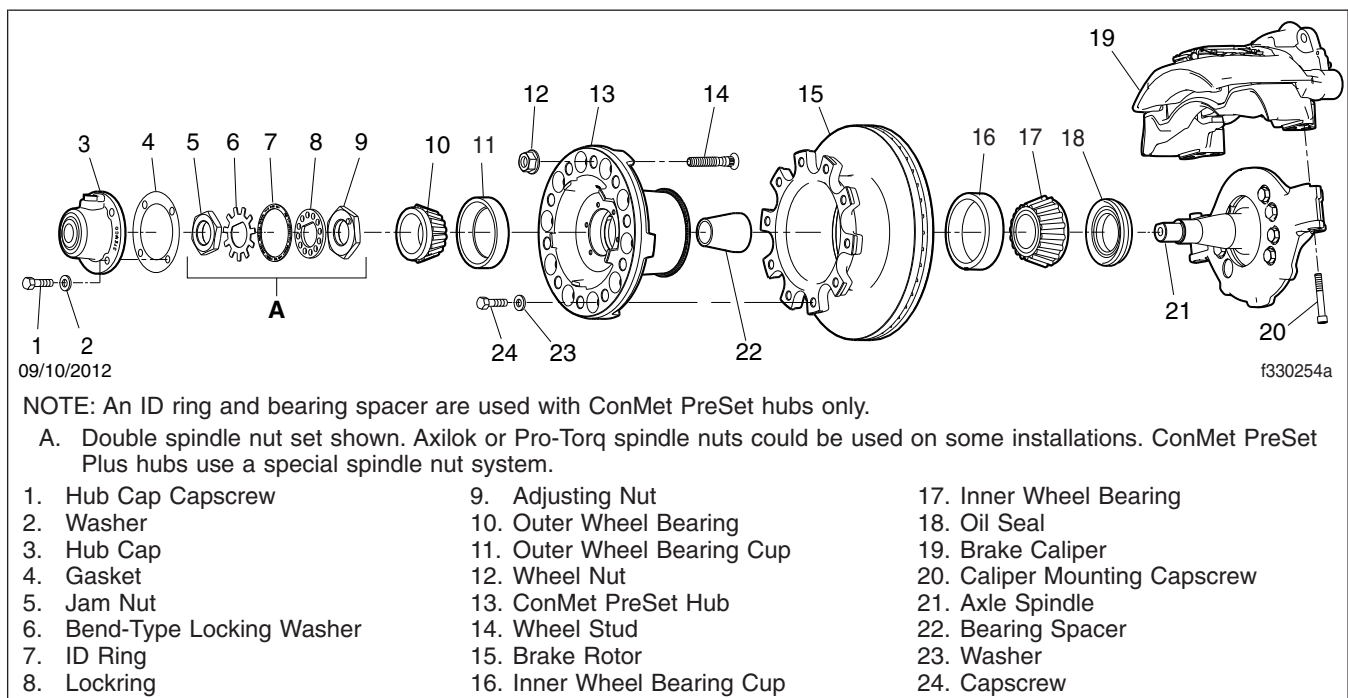

Fig. 1, Typical Wheel End Assembly, Front Axle with Disc Brakes
2. Park the vehicle on a level surface, shut down the engine, and set the parking brake. Chock the tires. For typical wheel end and axle assemblies, see Fig. 1